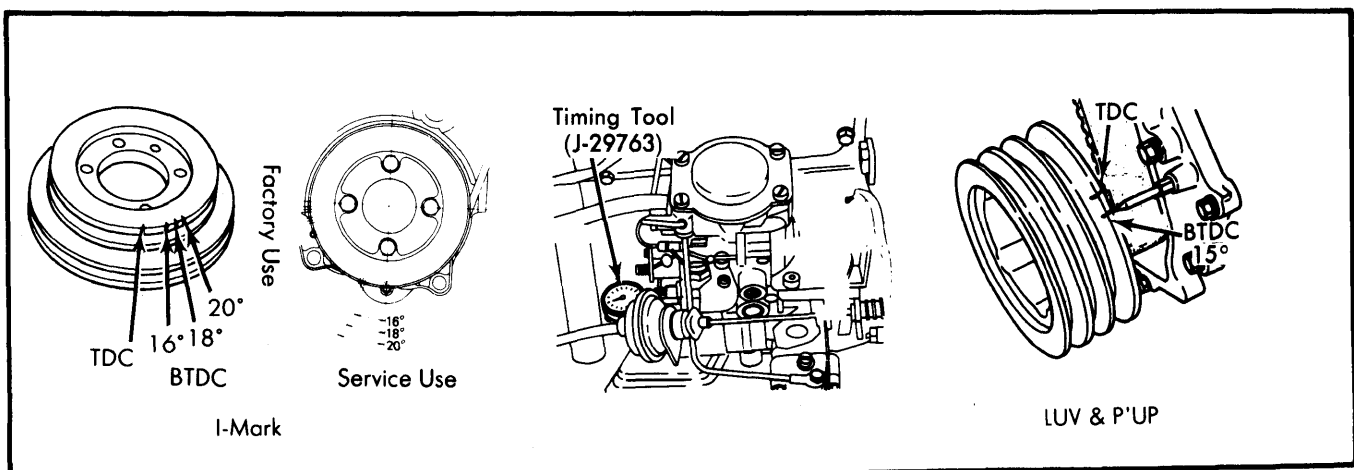

Fig. 12 Injection Pump Timing Adjustment
4) Turn crankshaft in normal direction of rotation until timing mark (18° BTDC) on crankshaft pulley is in line with indicator. See Fig. 12. Dial indicator should show .020" (0.5 mm). If not, loosen pump bolts and rotate pump slightly to obtain proper timing.
4) Turn crankshaft in normal direction of rotation until timing mark (15° BTDC) on crankshaft pulley is in line with indicator. Dial indicator should show .020" (0.5 mm). See Fig. 12. If not, loosen pump bolts and rotate pump slightly to obtain proper timing.